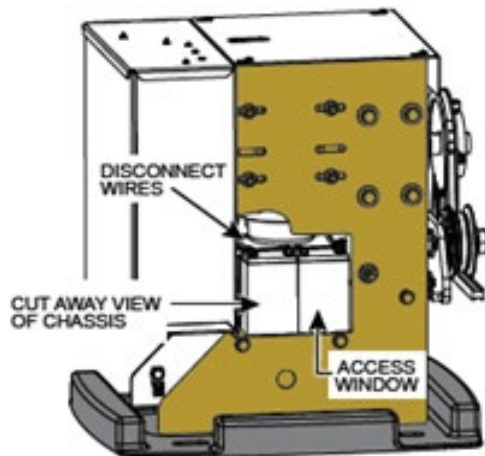
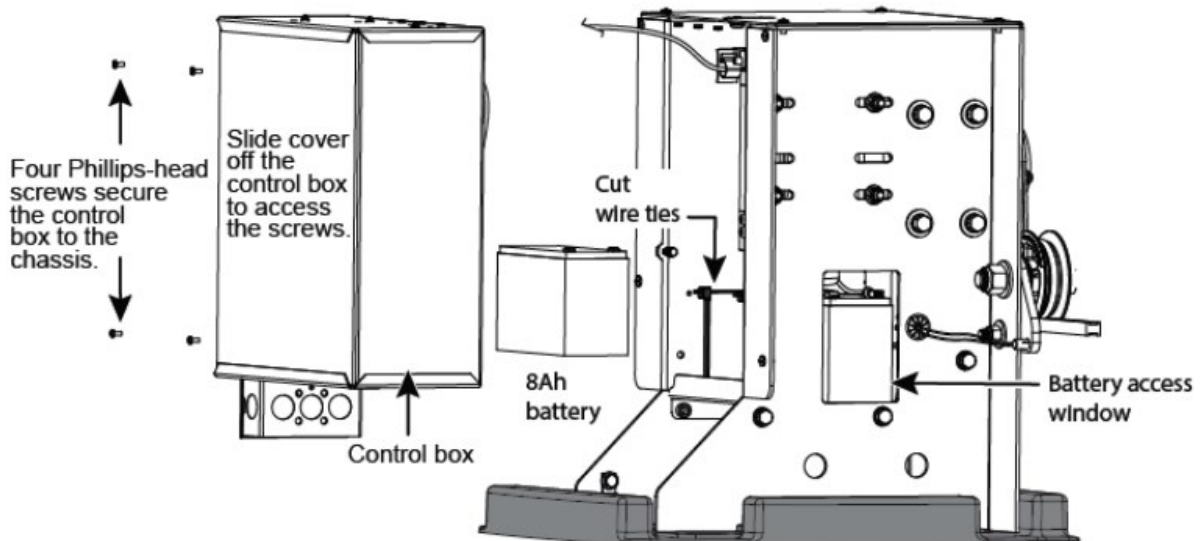

Figure 51. Battery Removal via Access Window
Figure 53. DC Battery Replacement Cover Removal
2. To access the 8Ah batteries and disconnect battery wires, cut the two black wire ties and slide the 8Ah batteries through the access window. See Figure 51. Another option is to remove the four screws that hold the control box to the chassis. Refer to Figure 53.
If you have difficulty removing the batteries through the access hole, an optional method for battery replacement is to remove the control box. Four Phillips-head screws secure the control box to the chassis. Remove the screws and remove the control box to access the batteries. Be careful that you do not inadvertently disconnect the control box wire bundles. An assistant for this alternative method of battery removal/replacement is highly recommended. See Figure 53.